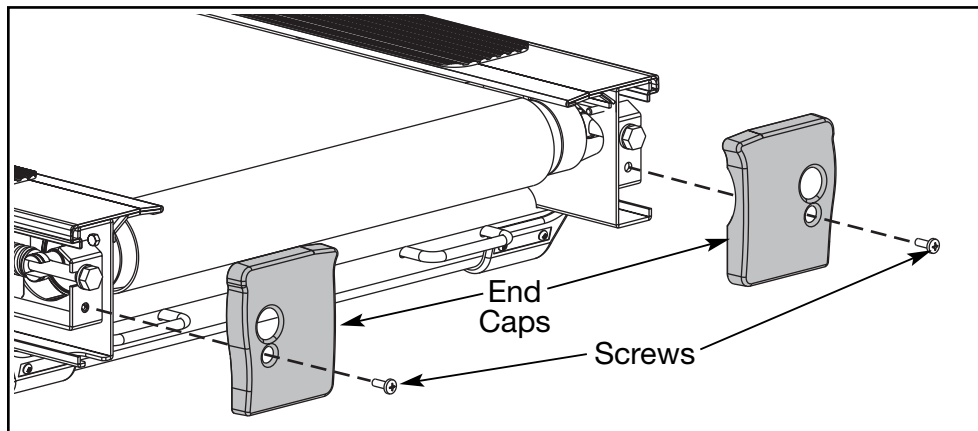

Figure 4
- A. Using a Phillips head screwdriver, remove the screw that holds each end cap in place. See Figure 4.
- A. Place each top step in position. See Figure 4.
- B. Using a Phillips head screwdriver, secure the three screws that hold each top step in place. See Figure 4.
- A. Using a Phillips head screwdriver, tighten the screw that holds each end cap in place. See Figure 4.